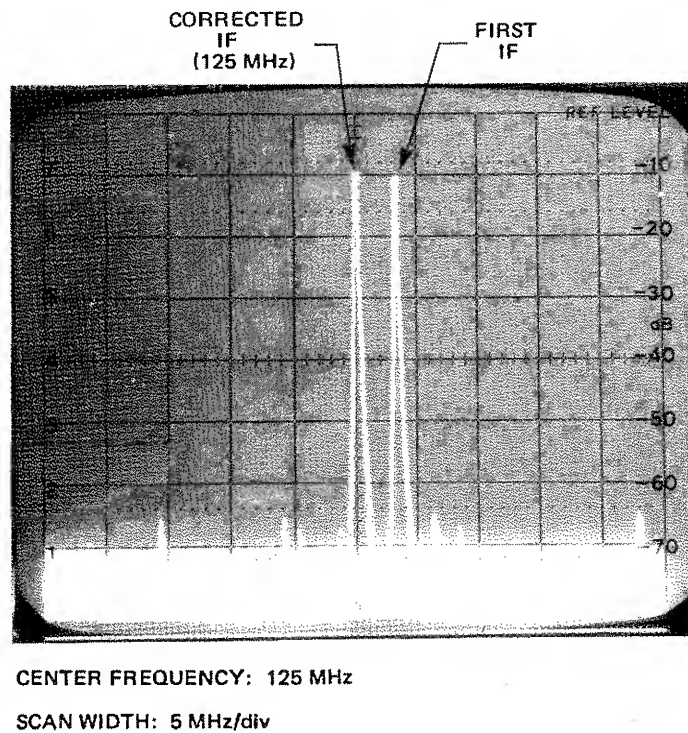

Figure 7-2. If Signal.
4. On the counter press . When the converter finds the incoming signal an IF is generated which is near 125 MHz at first, then shifts to exactly 125 MHz (see figure 7-2). If the first IF is more than 5 MHz from 125 MHz, adjust A108R14 until the first IF (at an input frequency of 1 GHz) is $125 \text{ MHz} \pm 5 \text{ MHz}$.